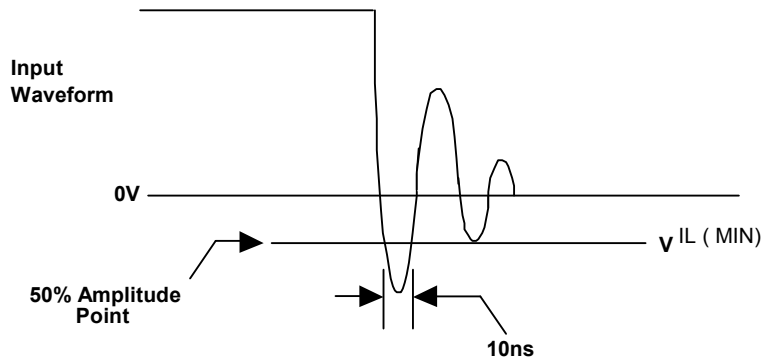

Figure 11: Input Signal Waveform
- 1.0 Volts for a duration of 10 ns measured at the 50% amplitude points for Input-only lines (see Figure 11 on page 28).
1. 1.0 Volts for a duration of 10 ns measured at the 50% amplitude points for Input-only lines (see Figure 11 on page 28).